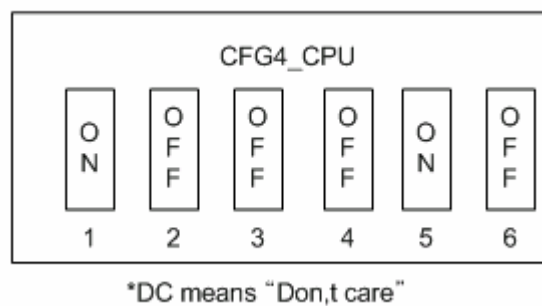

Figure 6-2 Jumper Setting for SDR Memory
- On the **Configuration** menu, click **Options** to set the UART/USB options. The following window appears on your screen. Select Baud Rate and COM Port as shown in figure 6-2, enter the download address as **0x30038000** and then click **OK** button.